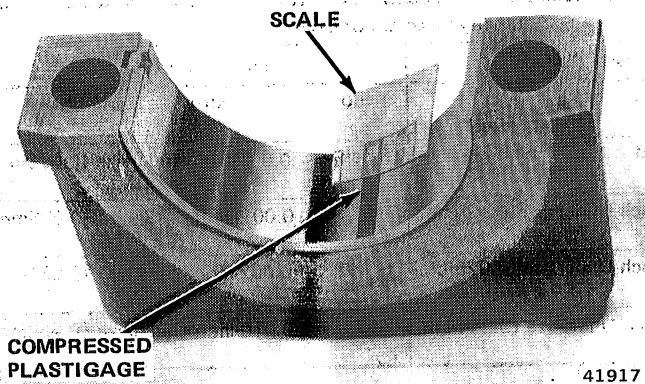

Fig. 1B-95 Measuring Main Bearing Clearance with Plastigage
- (1) Remove main bearing cap and insert.
- (2) Clean insert and exposed portion of crankshaft journal.
- (3) Place strip of Plastigage across full width of bearing insert.
- (4) Install bearing cap and tighten bolts with 80 foot-pounds (108 N•m) torque.
(5) Remove bearing cap and determine amount of clearance by measuring width of compressed Plastigage with scale on Plastigage envelope (fig. 1B-95). Correct clearance is 0.001 to 0.003 inch (0.025 to 0.076 mm). The Plastigage should maintain same size across entire width of insert. If size varies, it may indicate tapered journal or foreign material trapped behind insert.